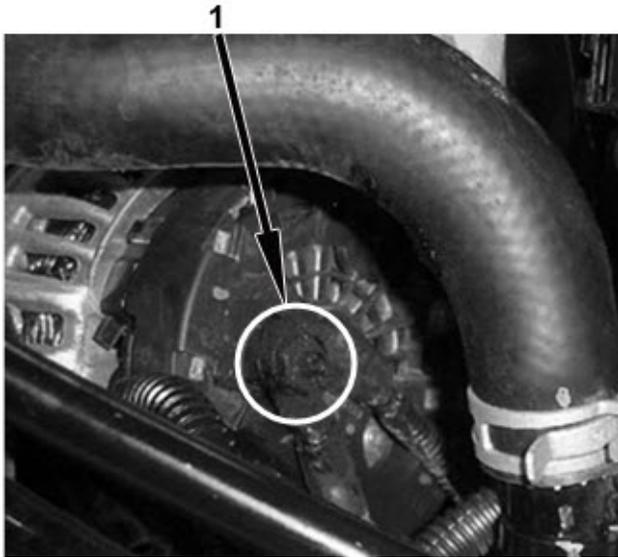

Figure 5
6. Remove alternator harness positive cable securing nut (Figure 5).